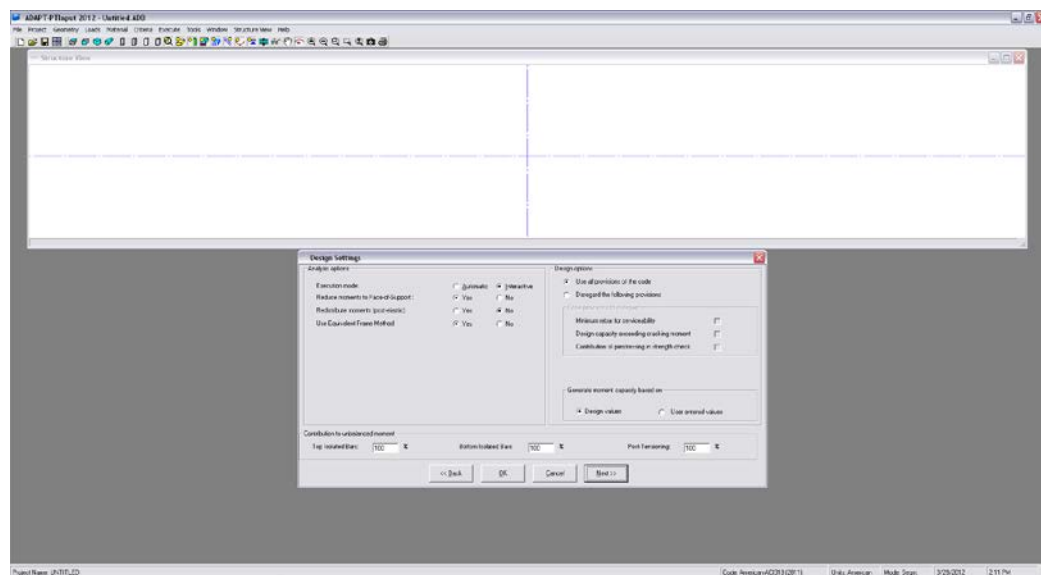

FIGURE 5.3-3
5.3.1.3 Design Settings (Fig. 5.3-3)